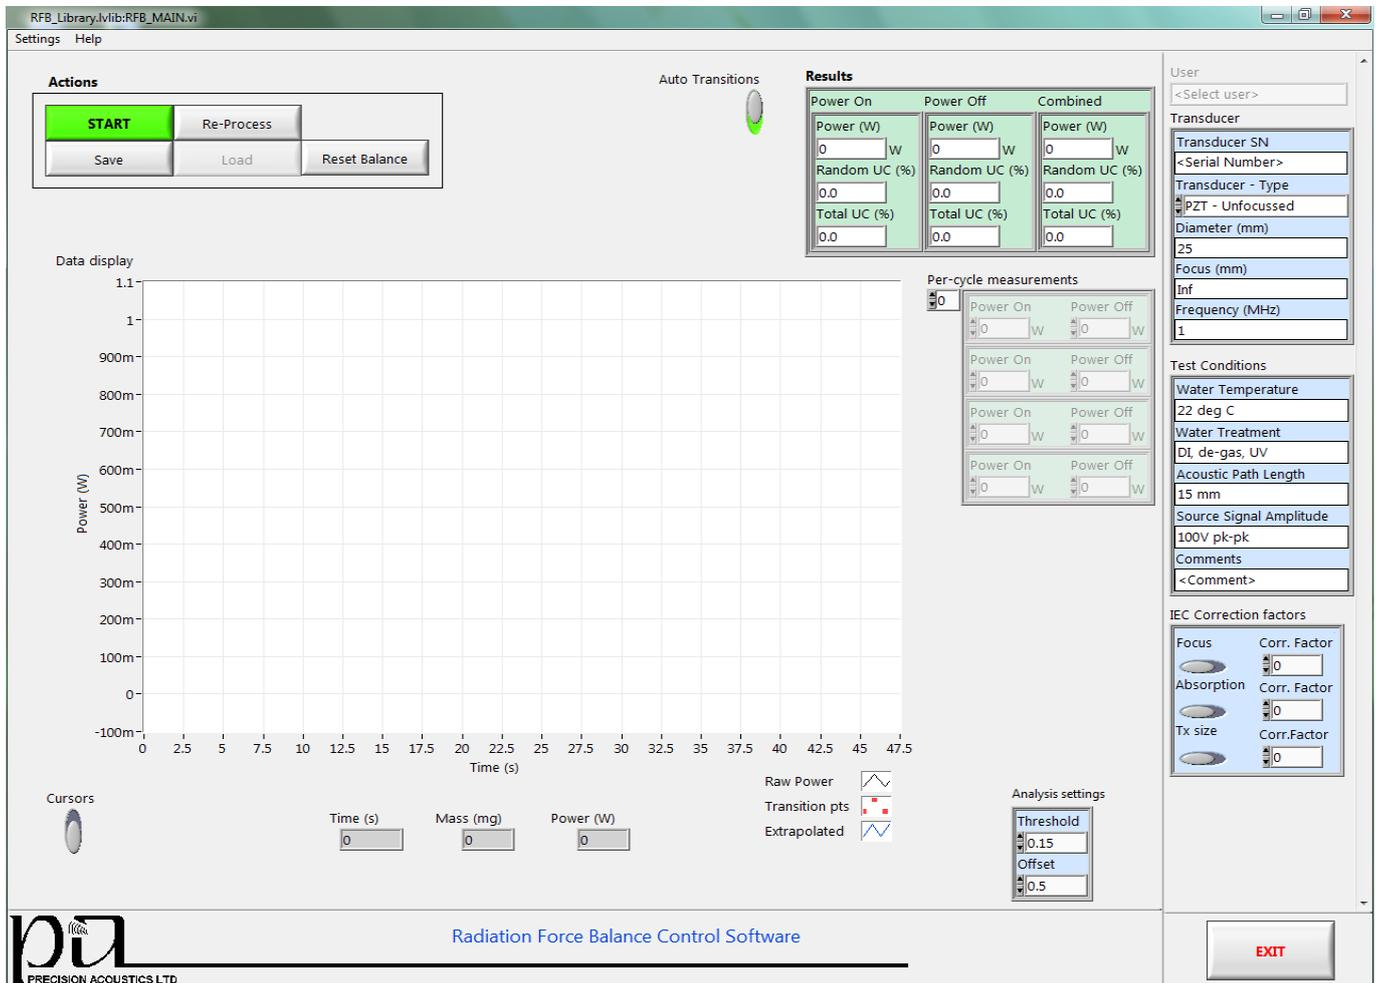

Figure 9 – RFB software main window
2. The main RFB window will be displayed (Figure 9).